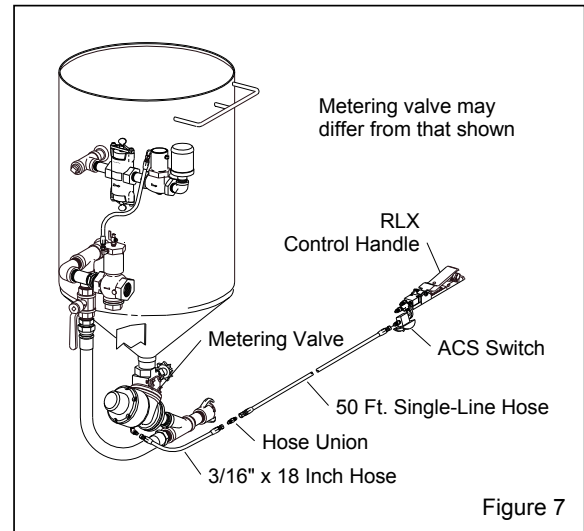

Figure 7
2.5.1 Set up for optional ACS feature. Refer to Figure 7. If the remote control does not have the ACS feature, skip to Paragraph 2.5.2.